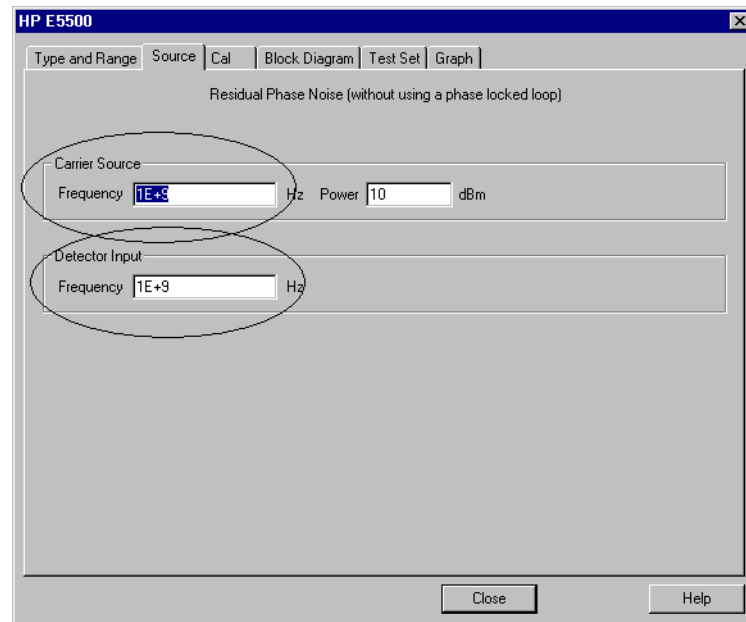

Figure 9-4 Enter Frequencies into Source Tab
- 8 Enter the carrier (center) frequency of your UUT. Enter the same frequency for the detector input frequency. See Figure 9-4.